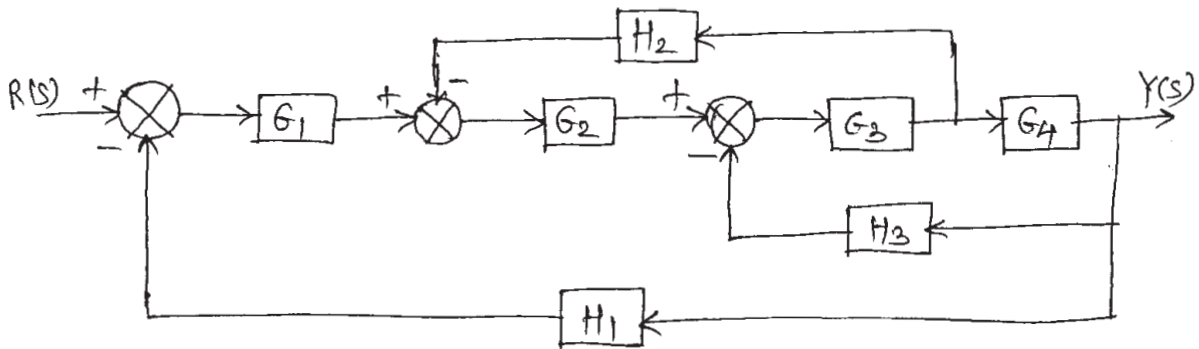

Figure No.2
- Q2) a)** Obtain the transfer function  $Y(s)/R(s)$  using block diagram reduction rules for the system shown in Figure No.2. [8]